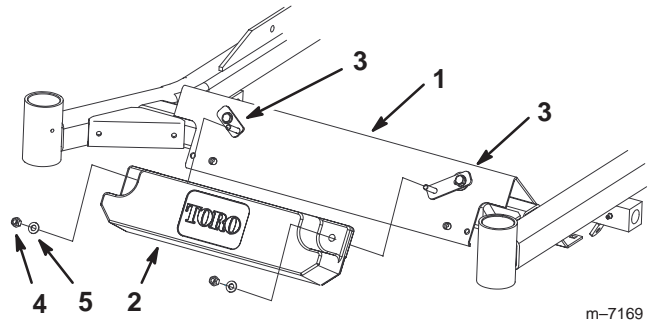

Figure 24
3. Install the weight onto the weight brackets with 2 washers (5/16 inch) and 2 locknuts (5/16 inch) (Fig. 24).